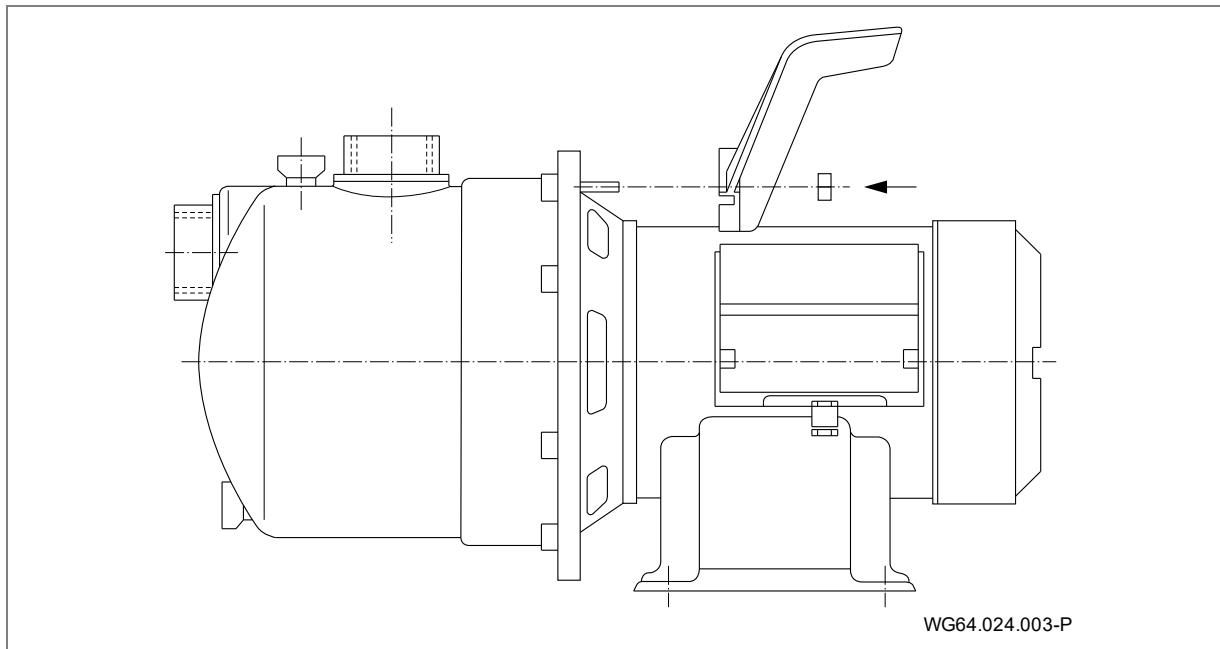

Fig. 1
- ➔ The pump unit, consisting of the motor and the pump, should be attached on both the motor and pump sides. See "Fig. 1" on page 10 .